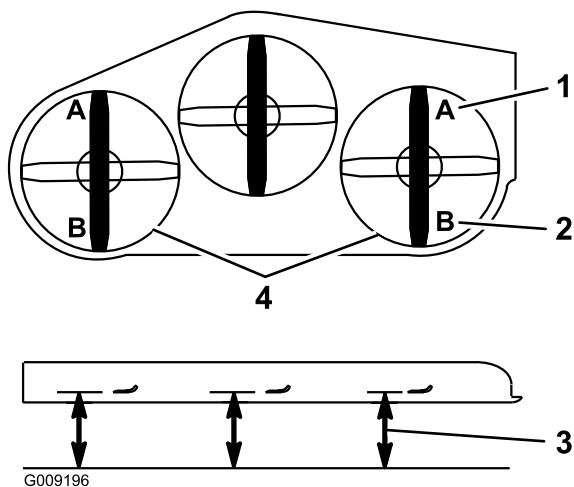

Figure 98
9. On both sides of the deck, measure from the level surface to the front tip of the blade (Position A) as shown in Figure 98.
15. On both sides of the deck, measure from the level surface to the back tip of the blade (position B) as shown in Figure 98.